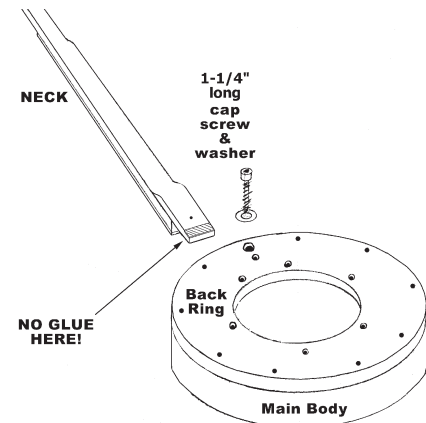

FIG. 24
- 20. Now you can install the neck into the body. It should be a tight fit. There are 2 cap screws left in your kit -- one longer than the other. The long one needs the washer. Screw that one into the hole closest to the top edge of the body and into the hole in the tang. (fig. 24) It should thread itself into the t-nut in the tang, but you may need to wiggle the neck a little to get it started.